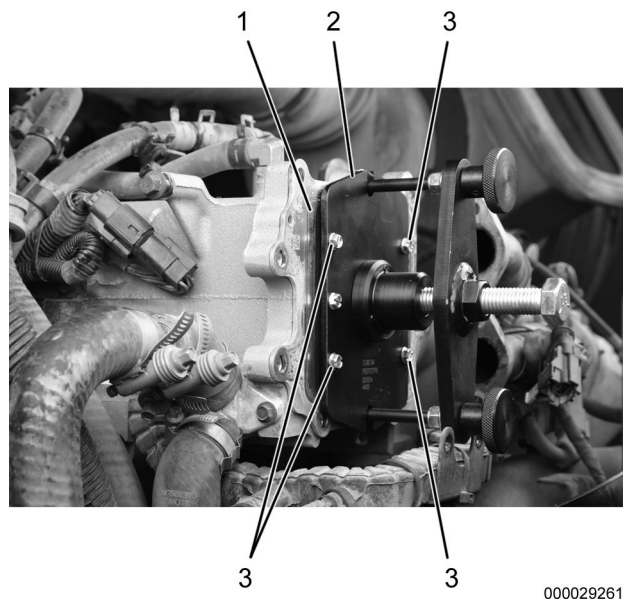

Figure 4. LT EGR Core Puller Self-Tapping Screws.
4. Drill six self-tapping screws (Figure 4, Item 3) into LT EGR cooler core (Figure 4, Item 1).
5. Tighten six self-tapping screws (Figure 4, Item 3) until flange is up against back of removal plate (Figure 4, Item 2).